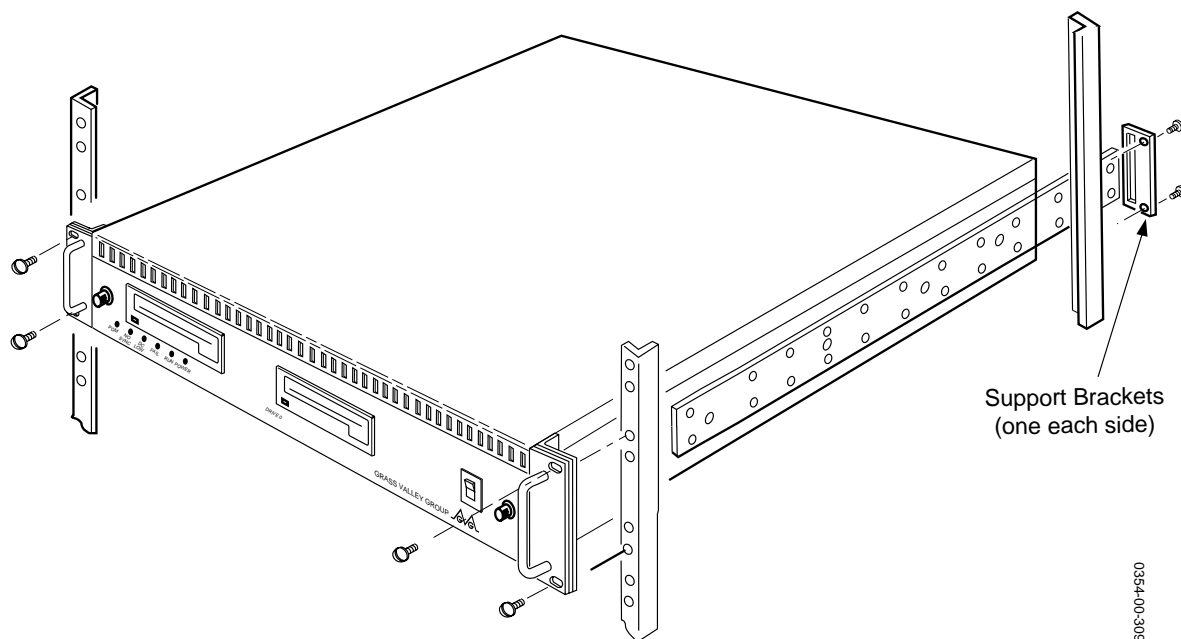

Figure 3-4. Installing The Computing Chassis Into The Equipment Rack
If the Computing Chassis is to be mounted in an equipment rack, mounting hardware must first be attached to the unit. Hardware consists of handles, mounting brackets and support brackets. Figure 3-2 illustrates handle assembly which must be done before attachment to the Chassis. Figure 3-3 illustrates attachment of the handles and mounting brackets to the Chassis. Figure 3-4 shows installation of the Chassis into the rack.
8. Attach one of the support brackets to the back of the equipment rack at the height for the Chassis when installed in the rack. (See Figure 3-4.)